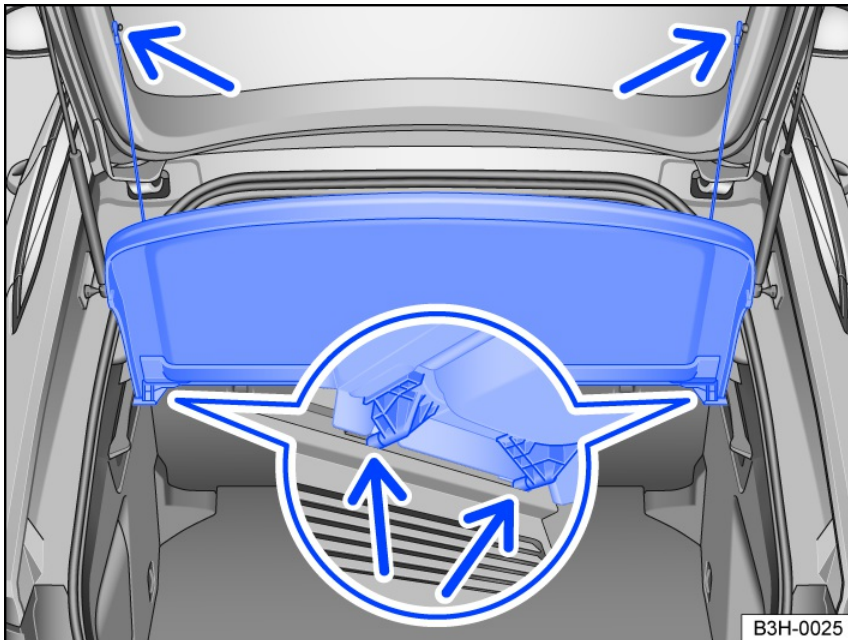

Fig. 137 In the luggage compartment: Installing and removing the luggage compartment cover.
1. Unhook the top retaining straps from the trunk lid *fig. 137* (upper arrows).
3. Press the luggage compartment cover out of the lateral brackets in the luggage compartment *fig. 137* (lower arrows).
1. Press the luggage compartment cover into the side holders in the luggage compartment *fig. 137* (lower arrows).
2. Hook the retaining straps onto the trunk lid *fig. 137* (upper arrows).